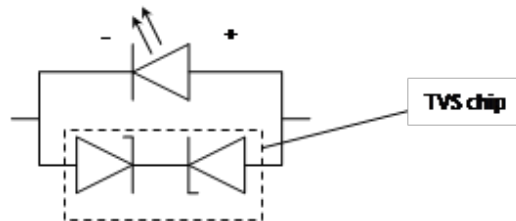

Figure 3. Electrical schematic.
1. Electrostatic Discharge (ESD) protection — Electrostatic Discharges, rapid transfers of charges between two bodies due to an electrical potential difference between those bodies, can cause unseen damage to electronic components. In LED devices, ESD events can result in a slow degradation of light output and/or early catastrophic failures. In order to prevent ESDs from causing any damage, Lumileds devices include a Transient Voltage Suppressor (TVS) chip. This TVS chip breaks down under high voltages, providing a current path in parallel with the LED chip (see Figure 3.)